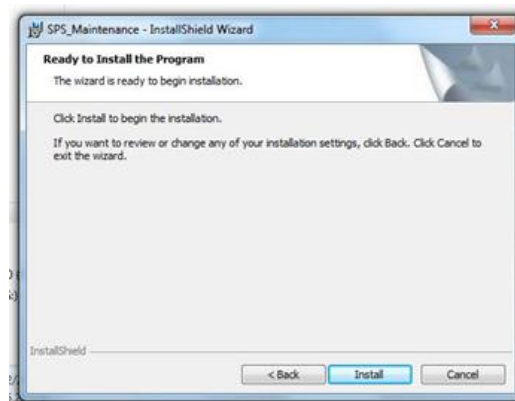

Figure C-5: Vaisala SPS Maintenance Install
12. The *Ready to Install* screen (for Vaisala) will appear (Figure C-5). Click **Install**...